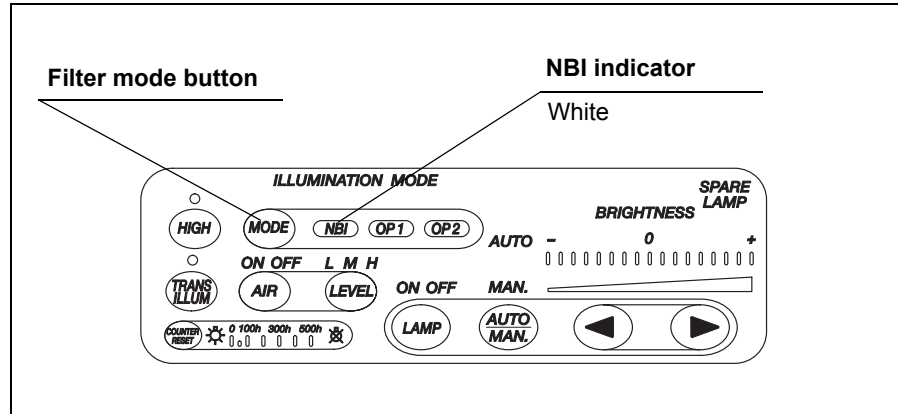

Figure 4.12
3. Press the filter mode button. The color of the “NBI” indicator turns white (see Figure 4.12).
4. In Figure 4.12, NBI observation is active.